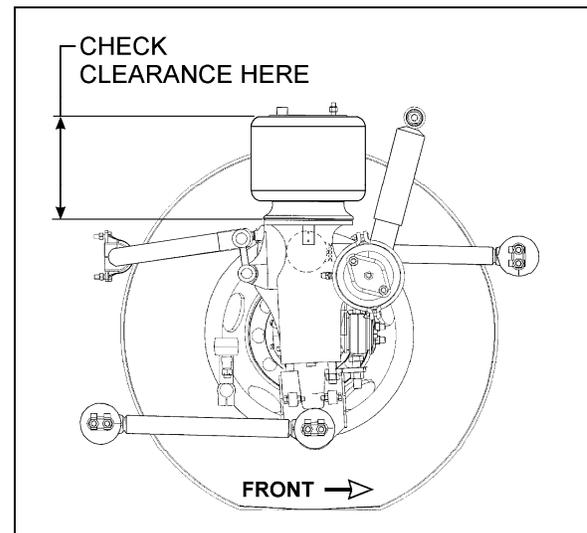

FIGURE 11: TYPICAL AIR SPRING CLEARANCE 16097
The appropriate vehicle body height is obtained by measuring the clearance of all the air springs installed on the front and drive axles. The clearance should be $11 \frac{11}{16}$ (297 mm) for the air springs installed on the front axle and $11 \frac{1}{2} \pm \frac{1}{4}$ (292 ± 6 mm) for those installed on the drive axle. Refer to figure 11 to identify the correct location where the measure has to be taken. At this point, it should not be necessary to make an adjustment under normal service conditions. However, if an adjustment is required, change the position of the overtravel lever in relation to the overtravel control body. The lever should be moved up to raise the height of vehicle, and down to lower it. Check that main air pressure is at normal operating pressure and raise the vehicle to the specified height.
1. With the vehicle at normal operating air pressure, check the air spring clearance as illustrated in figure 11. This clearance should be $11 \frac{11}{16}$ (297 mm) for the front axle air springs and $11 \frac{1}{2} \pm \frac{1}{4}$ (292 ± 6 mm) for those on the drive axle.
Note: The measure should be taken from under the upper air spring support on subframe to top of the lower air spring support on axle (refer to fig. 11 for more details). If adjustment is required, begin with the drive axle.